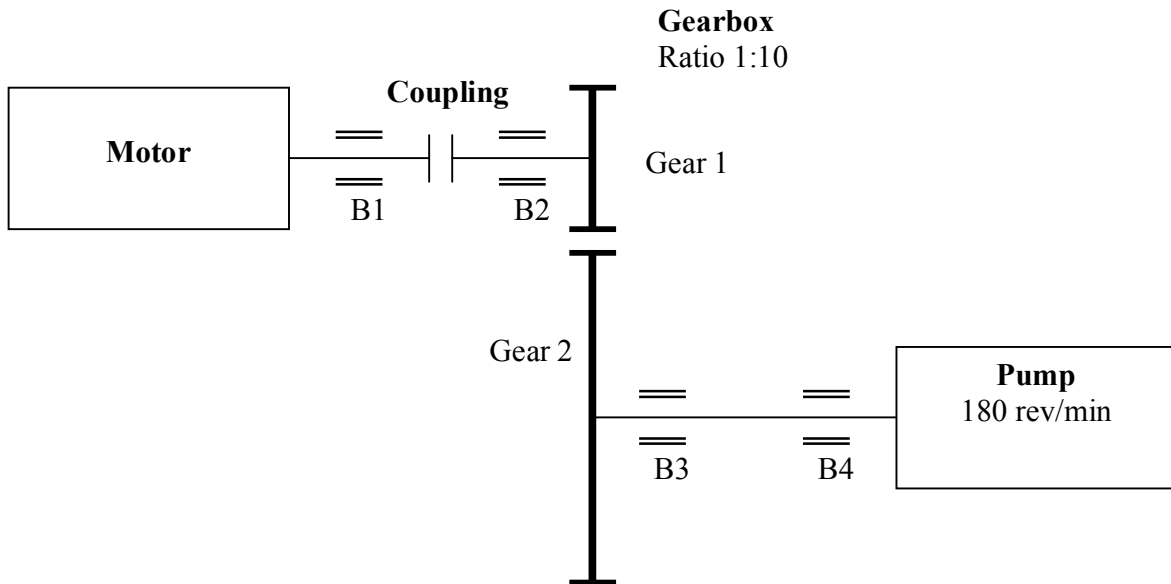

Figure 1
2. The line diagram of a pumping system (feed-water pump) is as shown in Fig. 1. Find the possible vibration frequencies for the following machinery faults:-